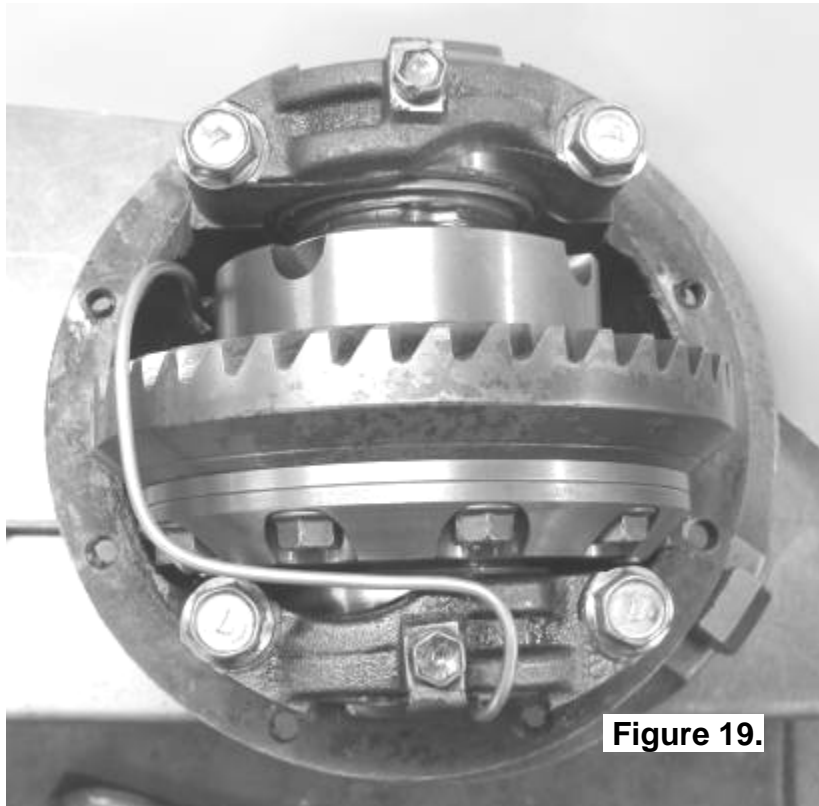

Figure 19.
- ☐ With the seal housing tube now firmly secured into the bulkhead fitting, bend the tube so that it closely follows the profile of the differential. (Figs.19., 20. & 21.)